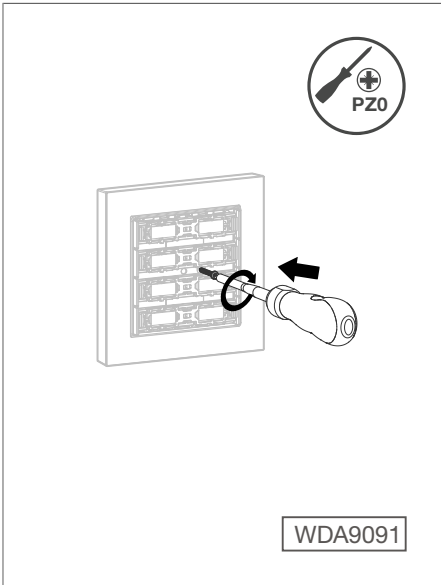

Fig. 11: Establishing dismantling protection
- If required, use the screw to establish dismantling protection (Fig. 11).